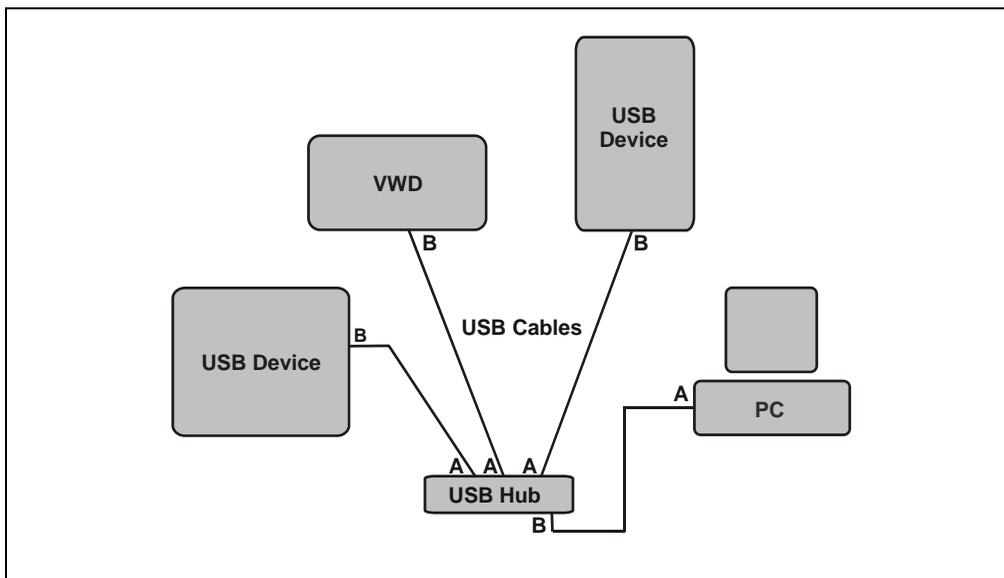

Figure B-13. Example Connections:
1. Plug the “A” connector of a USB cable into a port on the external USB hub (see Figure B-13).